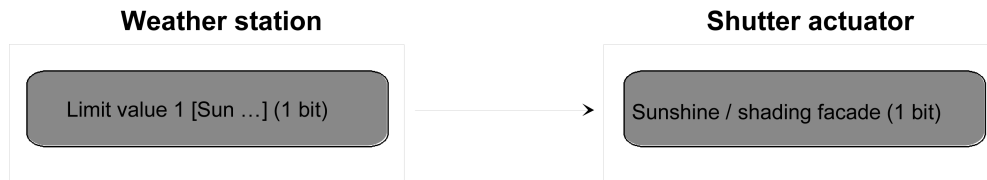

Figure 22: Programming of the communication objects for application example I
- fixed positions setting.(figure 22)